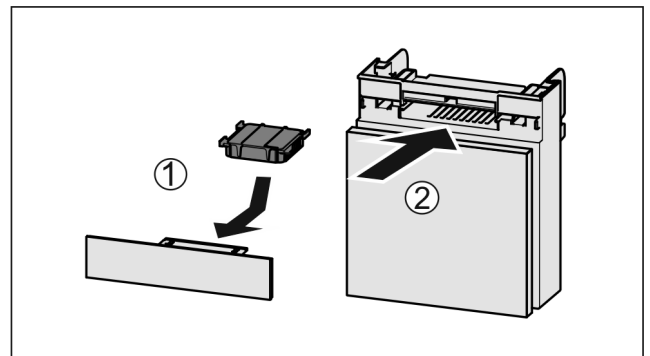

Fig. 89
- Insert the carbon filter as shown in the diagram Fig. 89 (1).
- Push the compartment in Fig. 89 (2).